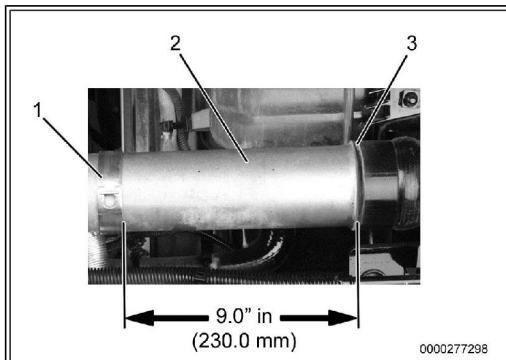

Figure 15: Clamp Measurement.
5. Measure approximately 9.0 in (230 mm) on CAC pipe (Figure 15, Item 2) from end of CAC rubber boot (Figure 15, Item 3) towards rear of vehicle for clamp (Figure 15, Item 1) installation.